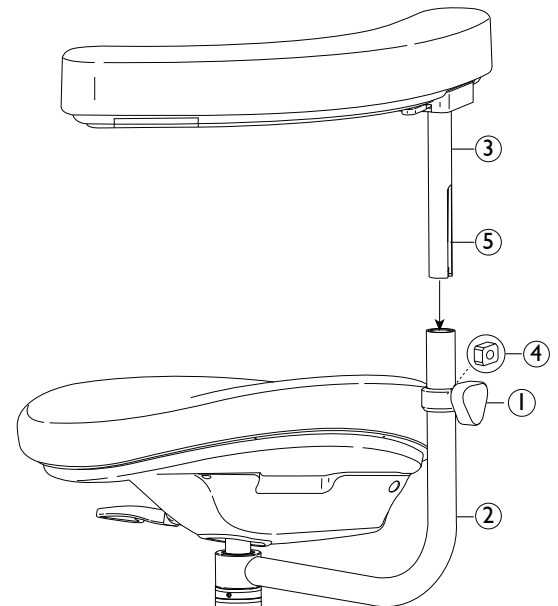

Figure 11: Installing the Torso Band
- 9** Loosen the Knob (Figure 11, item 1) on the Support Pole (Figure 11, item 2) until the bolt thread is even with the Square Nut (Figure 11, item 4) found inside the Support Pole.
- Prepare to insert the post of the Torso Band (Figure 11, item 3) into the Support Pole.
- Align the Square Nut inside the Support Pole with the Square Slot (Figure 11, item 5) of the post, and insert the post.